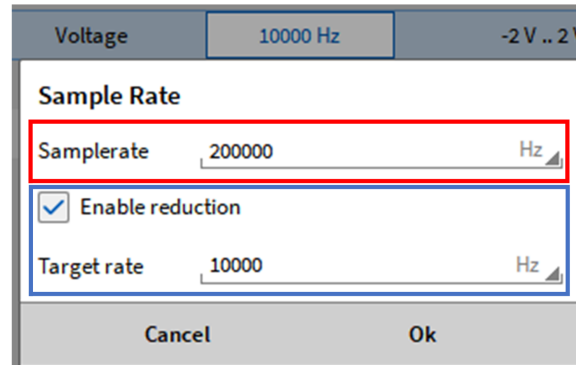

Fig. 7.38: Channel-wise sample rate settings
This chapter shortly explains the working principle behind the channel-wise sample rate selector. The samples are physically sampled with the set sample rate, which is defined in the channel list (red box in Fig. 7.38). If the reduction is enabled the user can set a reduced sample rate (blue box in Fig. 7.38) which is converted to an integer divider in the background and unnecessary samples are skipped
- Individual points to specify x- and y-values can be added by clicking on the + button (see Fig. 7.38)